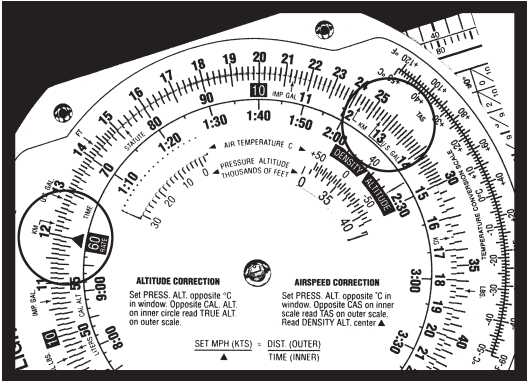

Figure 5
1. Set thirteen minutes on the middle scale opposite to 26 on the outer scale. See Figure 5.